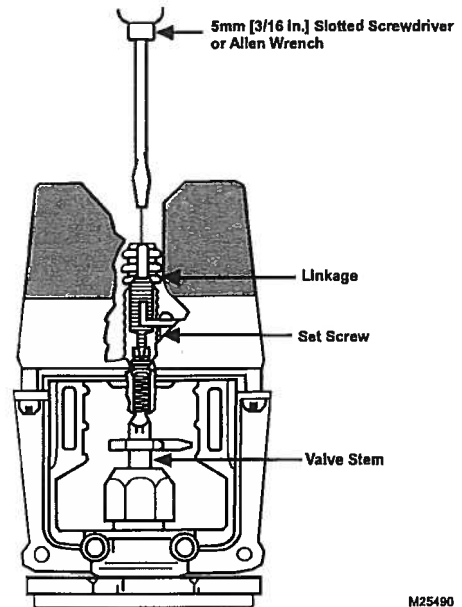

Fig. 6. Locking MLx984A Drive Shaft to Valve Stem.
6. Tighten the set screw to lock valve stem in place (Fig. 6), using a 1/8 in. Allen wrench (included).